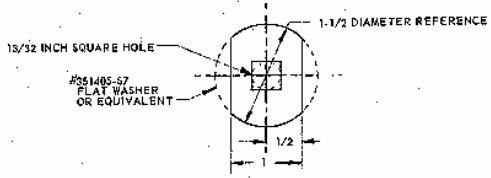

Fig. 1 - Reworked Washer (OVER)
2. Procure a flat steel washer 351405-S7 or equivalent (13/321 D. x 1-1/2 O.D. x 5/64 thick) and rework as shown in Figure 1 by squaring up the hole and cutting off two sides.